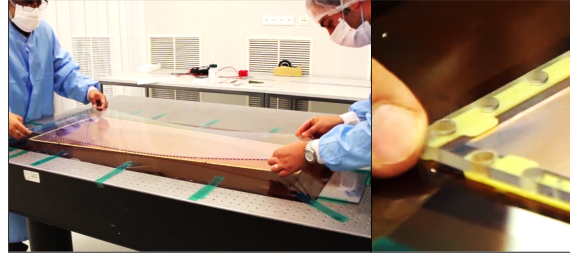

Figure 80: Placing the Plexiglas cover.
Step 4: When the Plexiglas cover is perfectly clean, carefully place it on top of the GEM stack, using the guiding pins for proper positioning. (Fig. 80).